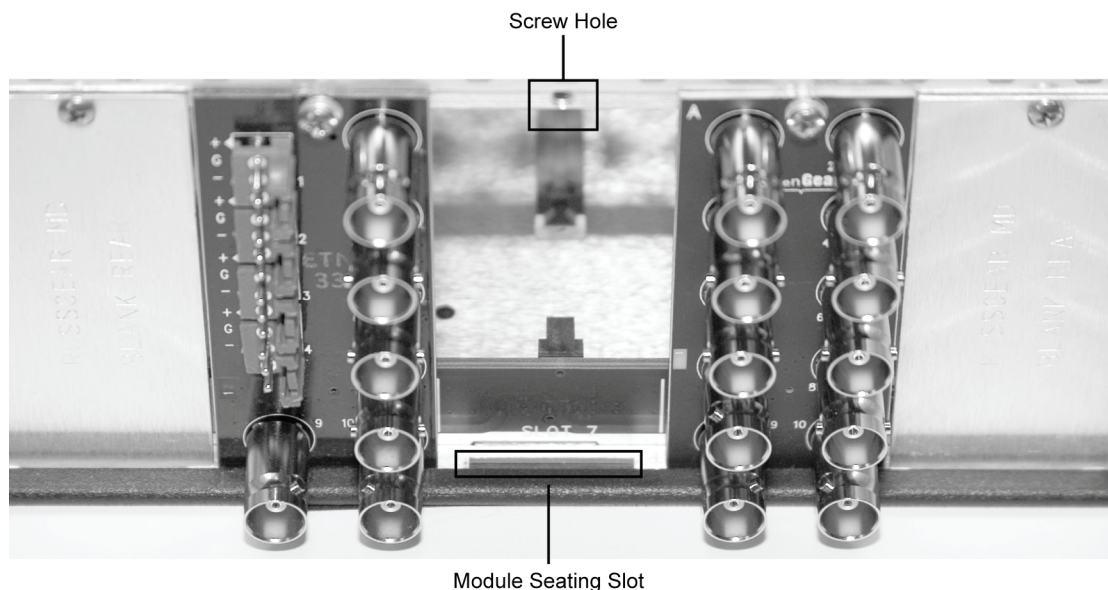

Figure 2. Rear Module Installation — DFR-8310 Series Frame (ADA-8401-A not shown)
4. As shown in **Figure 2**, seat the bottom of the rear module in the seating slot at the base of the back plane of the frame.